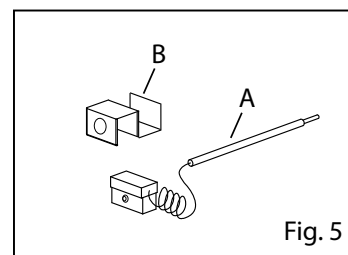

Fig. 5
- Take the bulb out of the tank (Fig. 5/A)
- Unscrew the support and remove the thermostat (Fig. 5/B)